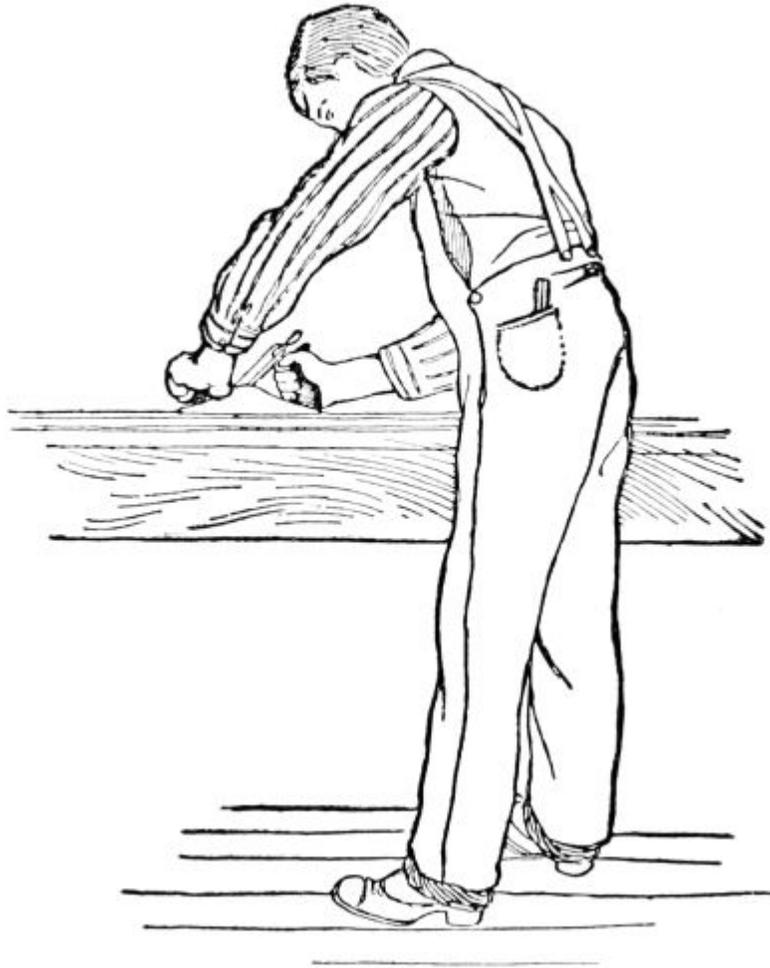

FIG. 25.—Take this Position for Planing.
**For Planing**, take the position shown in Fig. 25, with the left foot a little in advance of the right, the right hand grasping the handle of the plane and the left holding the knob on the fore part of the stock. Use a long, steady sweep, and bear with equal pressure from the beginning of a stroke to the end, to avoid the hollows that are so easily made by taking shavings of different thicknesses. Do not drag the plane-iron over the work in returning it for another stroke, as it will dull its edge.